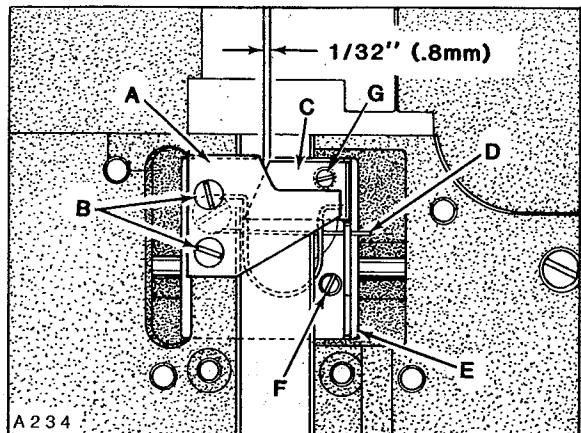
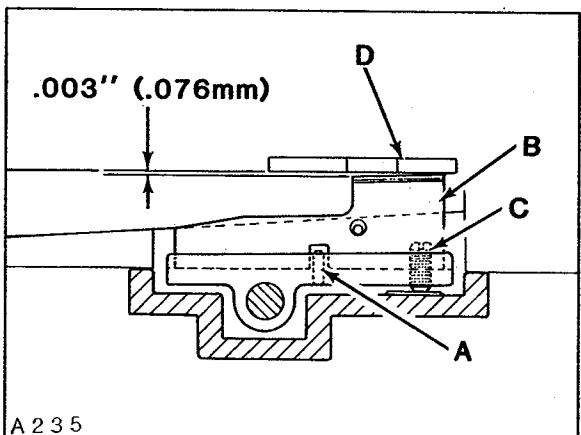

Fig. 31
Fig. 32
NOTE: References to Fig. 31 are as viewed from rear of machine; references to Fig. 32 are as viewed from left end of machine.
Upper knife (A, Fig. 31) can be replaced by removing two screws (B). In order to replace lower knife... the upper knife, rear cover and thread inlet must be removed. Lower knife (C) is held in position by roll pin (A, Fig. 32) and tension spring (D, Fig. 31). To remove lower knife, lift up and tilt to the right. When replacing lower knife, be sure to engage end of tension spring through the hole in the side of lower knife before inserting in the slide block (E). Also be sure that the slot in lower knife is located over roll pin.
IMPORTANT! Be sure that lower knife does NOT strike against knife housing or feed chamber cover. Adjustment should be accomplished by loosening one screw (F, Fig. 31) and reposition left or right slightly.
Carefully press against slide block (E, Fig. 31) until air motor stalls.
With treadle still depressed, check the knife cross over. The cross over of the lower knife to the upper knife is positioned correctly, when the lower knife is $1/32$ inch (.8mm) from the front of the upper knife as shown in Figure 31. If adjustment is required, loosen screw (F), reposition slide block (E) slightly as required. Retighten screw (F) and recheck cross over.
Shear angle should be .003 inch (.076mm), measured at rear cutting edge of lower knife (B, Fig. 32) and cutting edge of upper knife (D).
Adjustment can be made by turning lower knife adjusting screw (C, Fig. 32) counterclockwise (a small amount at a time) while manually
operating slide block (E, Fig. 31) continuously checking with a piece of thread to see if knives are cutting. As soon as the knives fail to cut the thread and the shear angle is zero, turn screw (C, Fig. 32), same as (G, Fig. 31) clockwise approximately 1/4 turn. Check cutting action of knives with sewing motor switch "ON".